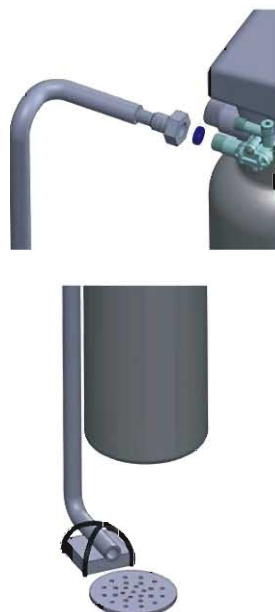

Figure 1-4
⑤ Install drain pipeline
- As the Figure 1-4 shows, slide the drain hose connector into drain outlet.
- Locate the drain hose well as the Figure1-4 show.
● Be sure not connect drain with sewer, and leave a certain space between them, avoid wastewater be absorbing to the water treatment equipment, such as showed in the Figure1-4.